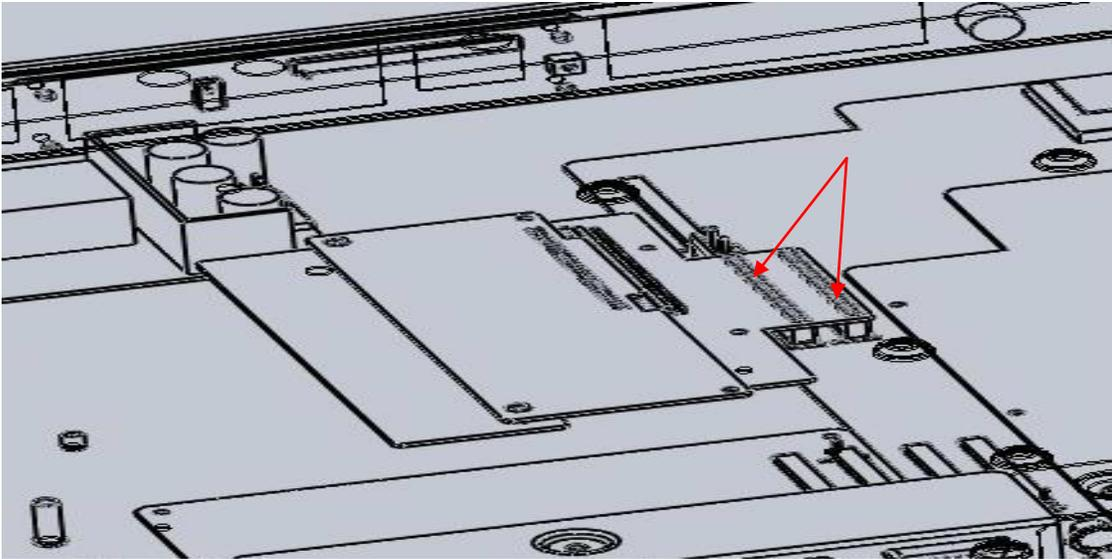

Figure 2
2. Secure the assembly onto the modem baseband board by carefully aligning the multi-pin headers located at J1 and J2 of the Turbo LDPC assembly and J22 and J23 of the modem baseband board and gently pushing down until connectors are seated as shown in Figure 2